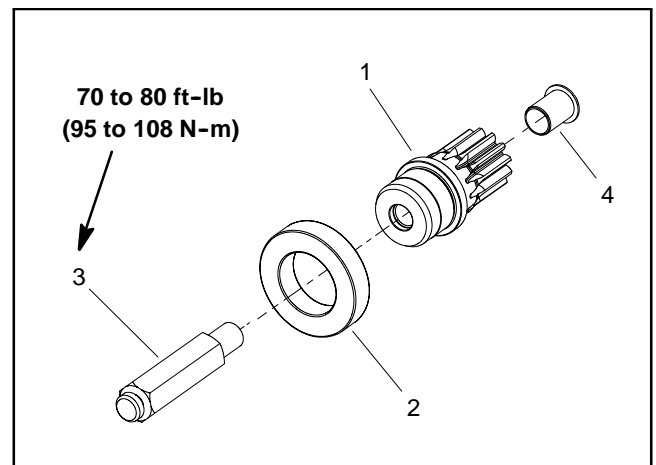

Figure 26
4. If necessary, disassemble spur gear assembly (Fig. 26).
1. If long spur gear (item 8) was removed from drum drive housing, slide gear into ball bearing in drive housing.
2. If spur gear assembly (Fig. 26) was taken apart, assemble as necessary:
3. Make sure that differential housing cavity is packed 20% to 30% full of high temperature Mobil XHP-222 grease (or equivalent). Slide differential assembly into drum drive housing (item 1) and onto long spur gear (item 8). Make sure that spur gear properly engages differential gears.
4. Place thrust washer (item 29) onto drum shaft (item 7). Insert drum shaft into differential assembly. Make sure that drum shaft properly engages differential gears.